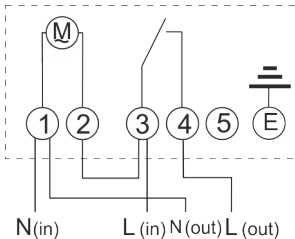

Fig. 9: Mains connection CI7
17. For mains connection CI7: Insert the connection wires into the corresponding terminals in accordance with the relevant wiring diagram (Fig. 9) (N = neutral conductor; L = live conductor) (Fig. 9).